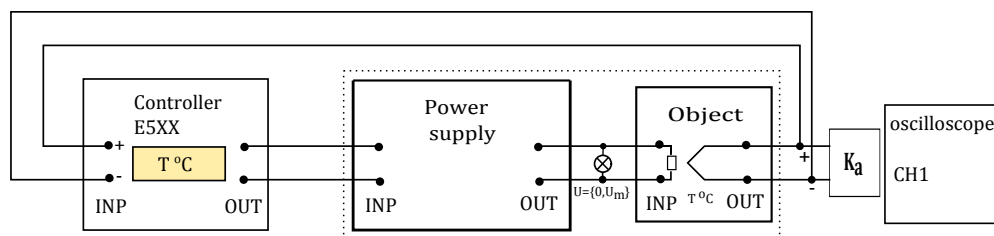

Figure 1: Assembling diagram: PID Control
- ✓ Connect object with a controller as it shown in Fig. 1